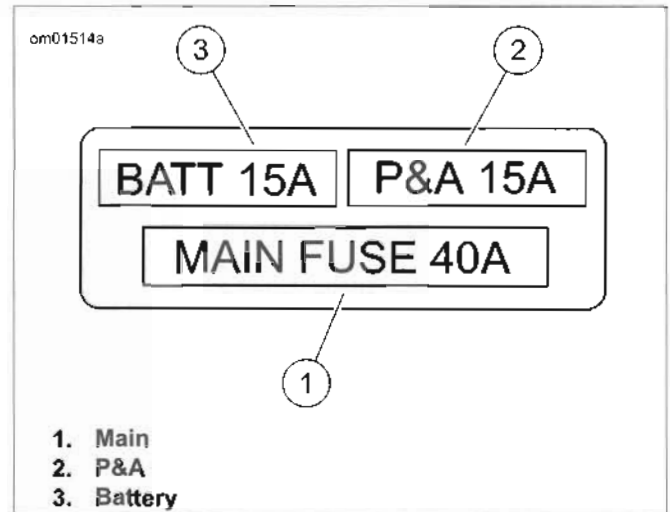

Figure 7-19. Fuse Block
3. See Figure 7-19. Replace suspect fuse.